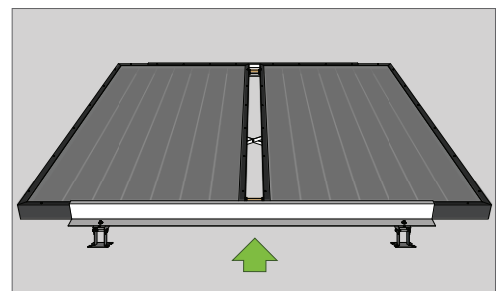

Fig 9
10. For multiple panel installation, to ensure tight fit at centre position, tek screw through middle of Z-frame rail/s (at the gap position between panels due to barrel unions) lifting L-support rails so that panel is tight up against Z-frame as shown in fig 9.